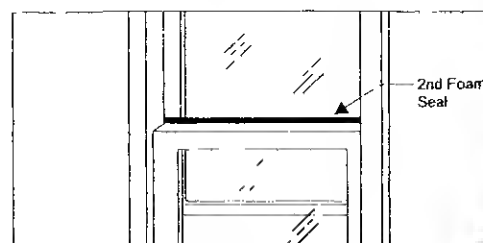

Fig 18
- A. Cut the second foam seal to fit the opening between the top of the inside and outside window. See (Fig 18)